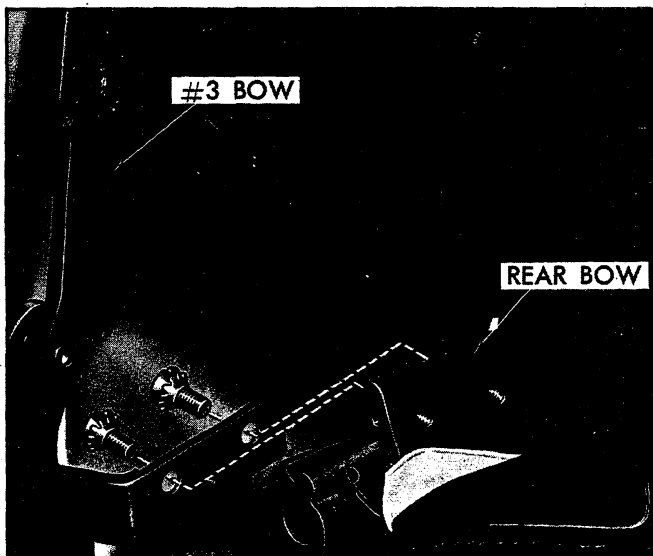

Fig. 104—Rear Bow Retaining Screws
7. Disconnect rear bow from top frame assembly. Two screws retain at each side Figure 104.